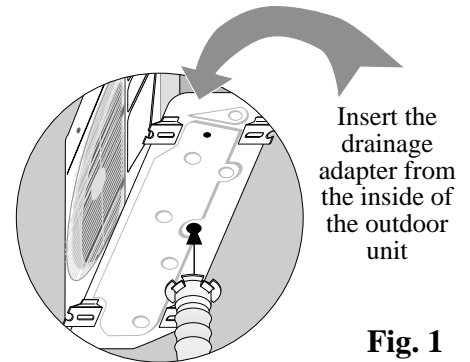

Fig. 1
- In heating mode, water can form in the condenser. A drainage hose may be attached to the unit. Use the adapter shown Fig. 1.